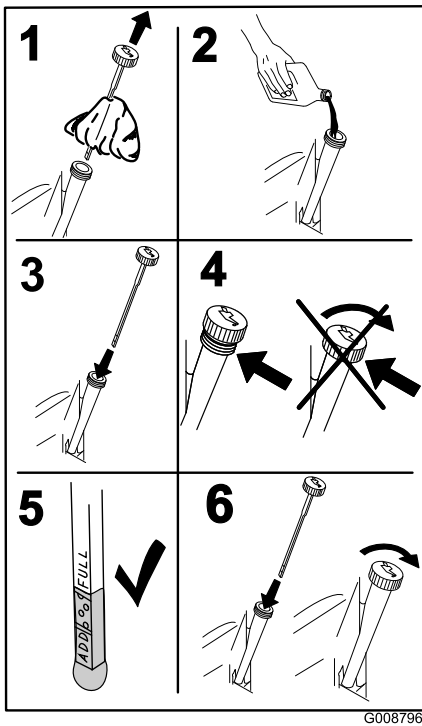

Figure 45
5. Slowly pour approximately 80% of the specified oil into the filler tube and slowly add the additional oil to bring it to the **Full** mark (Figure 45).